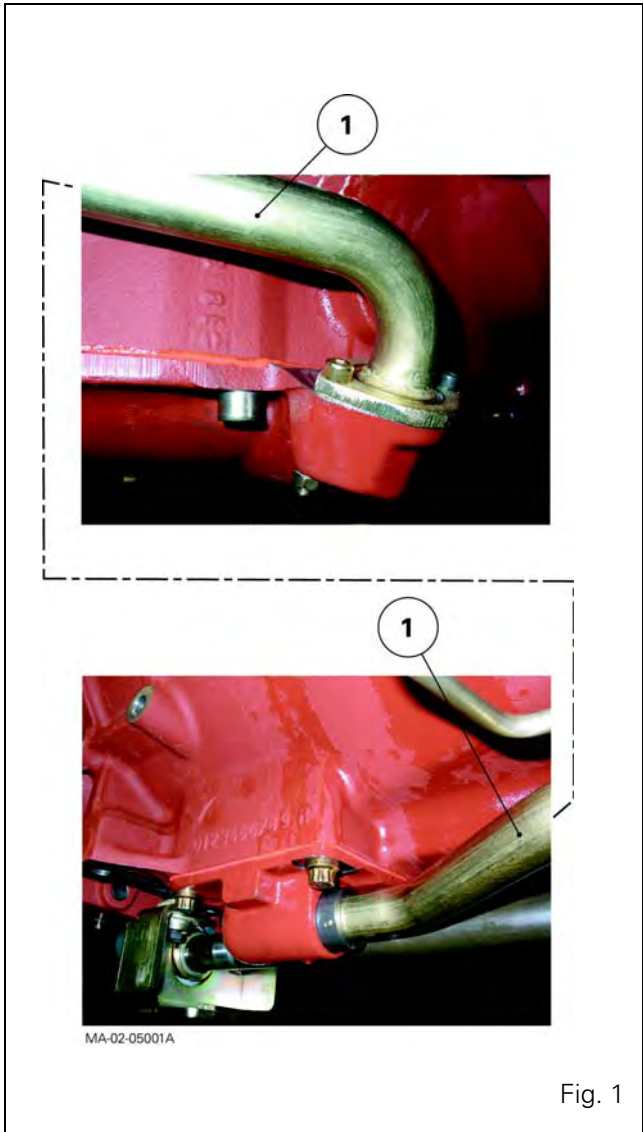

Fig. 1
8. Remove the reverse shuttle lubricating pipe (1) located between the centre housing and gearbox (Fig. 1).